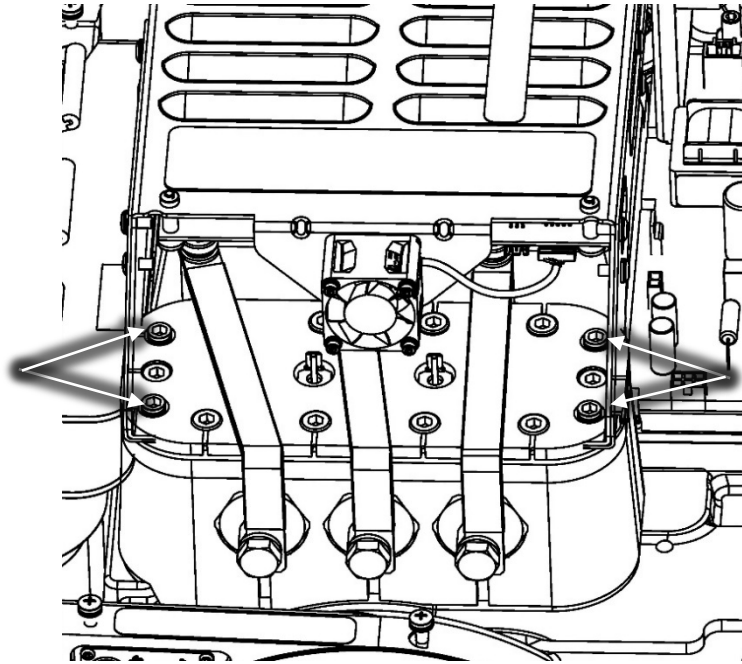

Figure 3 – Soft Start Mounting Fasteners
10. Remove and discard the M5x15 fasteners that secure the Soft Start mounting bracket to the compressor. Refer to Figure 3 (Soft Start Mounting Fasteners).